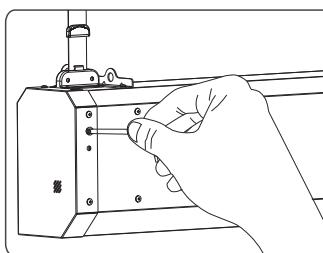

Figure 24
a.Upper limitation adjusting. Take off the knob from the hole and use the provided allen key to adjust (figure 24). A clockwise adjustment will retract the screen (The distance between the screen and installation position will decrease) and a counter-clockwise adjustment will extend the screen (The distance between the screen and installation position will increase).